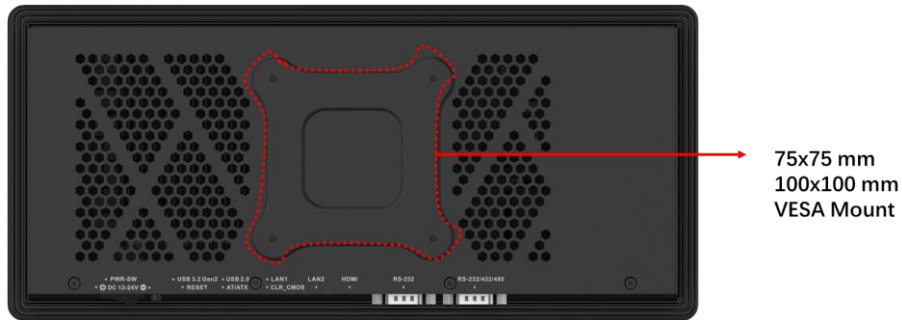

Figure 3-18: Arm Mounting Retention Screw Holes
Step 3: Align the retention screw holes on the mounting arm interface with those in the PPC2-CW123/133-EHL panel PC. The arm mounting retention screw holes of the PPC2-CW123/133-EHL panel PC are shown in **Figure 3-18**.